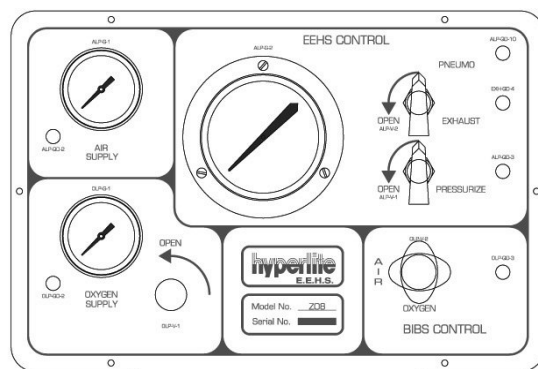

Figure 1-3. Control Box
**1-4.6 Control Box.** All of the standard operating controls and the primary depth gauge are contained in the control box, as shown in Figure 1-3. These controls and their functions are as follows: